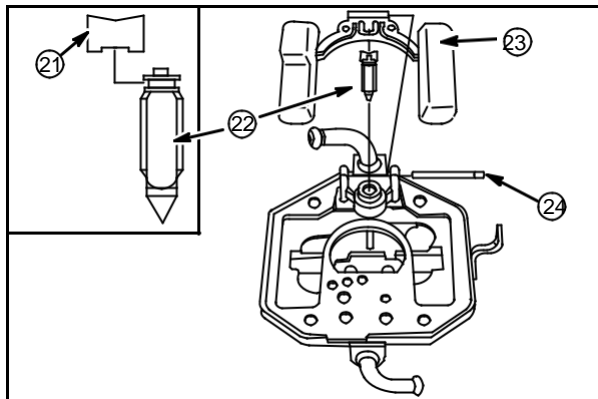

Fig. 111
Assemble inlet needle retainer (21) to inlet needle (22). Assemble to float (23), **Fig. 111**.